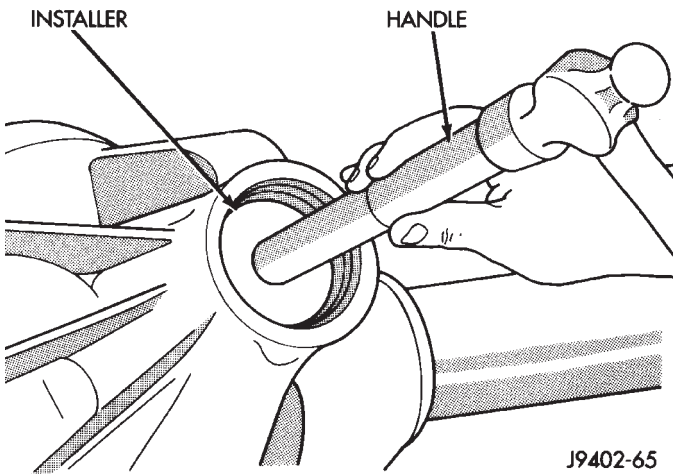

Fig. 52 Pinion Front Bearing Cup Installation
(3) Install the pinion front bearing cup with Installer D-144 for 216 FBI axles, or D-146 for 248 FBI axles, and Handle C-4171 (Fig. 52).